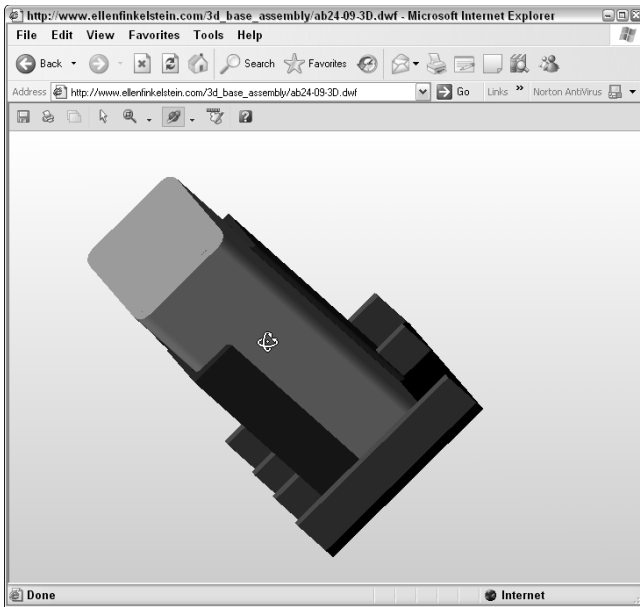

Figure 28-14: You can use the Orbit option to tumble a 3D DWF in any direction.
- ♦ For 3D DWFs only, the Orbit option functions somewhat like the 3D Orbit feature. (See Chapter 22 for an explanation of 3D Orbit.) Drag to tumble the model in any direction, as shown in Figure 28-14. Press Ctrl as you drag to constrain the tumbling to the vertical direction. Press Shift as you drag to tumble only horizontally. Press Ctrl and Shift together as you drag to constrain the view to rolling.